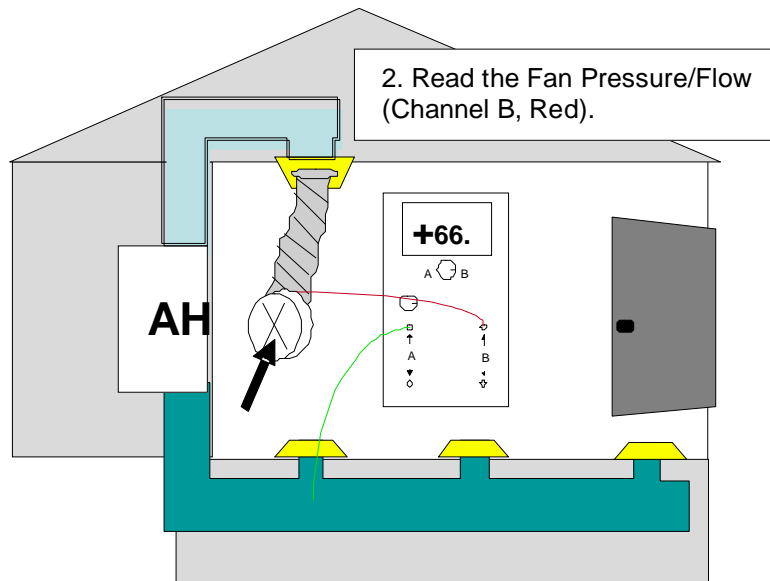

Figure 2: Determining duct leakage
2. Determine the duct leakage (with simple manometers, the fan pressure (Pa) is converted to CFM₂₅ using a flow table. Many digital manometers sold with duct testing equipment can automatically perform this conversion, and display CFM₂₅ directly.) Consult your duct testing equipment manual (see Figure 2).